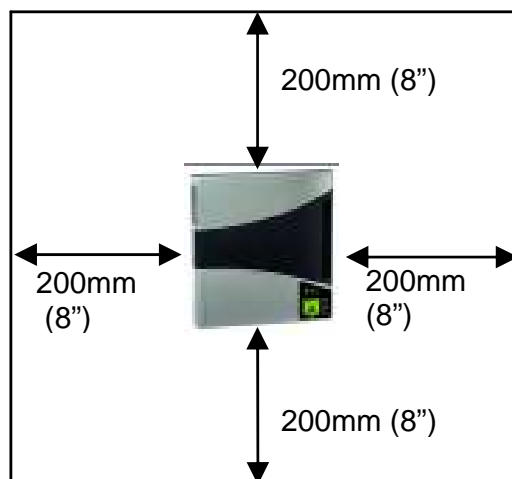

Fig.5 Installation location
- Leave enough room around the unit to allow easy installation and maintenance (Fig 5).